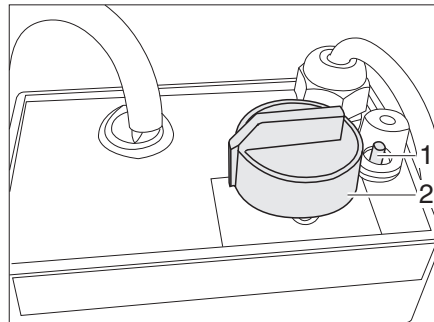

Fig. 117 Regulator for electrical floor warming unit
- Turn the control knob (Fig. 117,2) to the desired heating level.
- Turn the control knob (Fig. 117,2) to the setting "0".
If the regulator is overloaded, the overload protection is actuated. The pin (Fig. 117,1) will trip.
- Press in the pin (Fig. 117,1) at the overload protection when the regulator has cooled down.